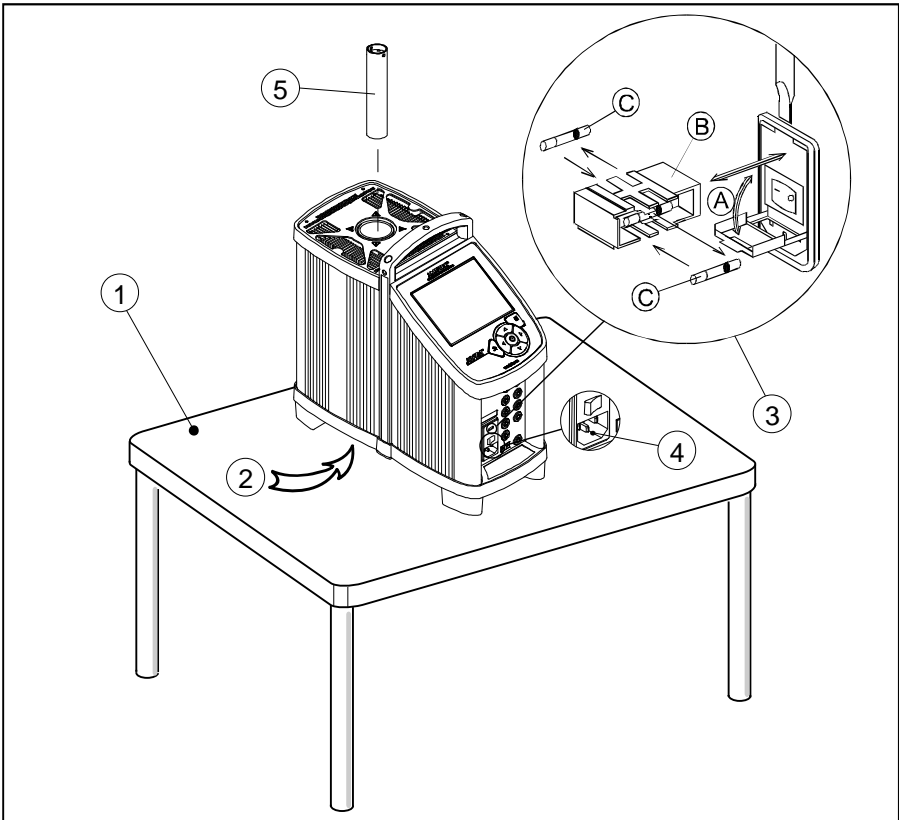

Fig. 1
- ② Ensure a free supply of air to the internal fan located at the bottom of the instrument. The area around the calibrator should be free of draught, dirt, flammable substances, etc.
- ③ Check that the fuse size corresponds to the applied voltage on. The fuse is contained in the power control switch (on/off switch). To check; do as follows (see fig. 1):